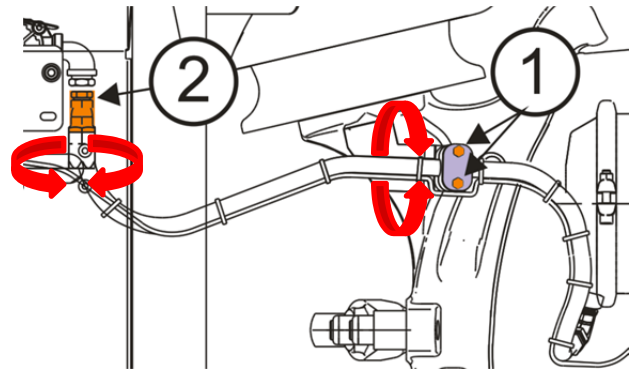

FIGURE 5
4. Loosen two (2) screws on the hose clamp (item 1).
5. Loosen the fitting (item 2).
8. Release the torsion (twist) in the hose. To do so, turn the hose in the clamps and then tighten the clamp screws (item 1, figure 5).